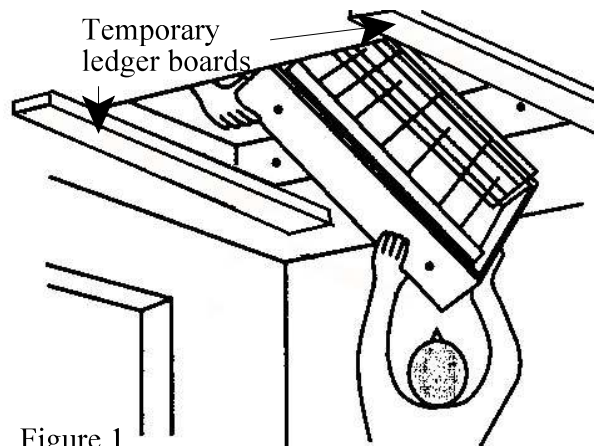

Figure 1
2. Install temporary support ledgers. Using 2 ½" wood screws (not included), attach 1 x 4 temporary support ledger boards at both ends of the opening to provide temporary support for the stairs during installation. These boards must be a minimum of 6" longer than the width of the rough opening in the ceiling. To prevent splitting, pre-drill the holes for the wood screws. These boards are to provide a 7/8" ledger inside of the opening. If installed more in the opening, the ledger boards will interfere with the stair cover (Fig. 1).